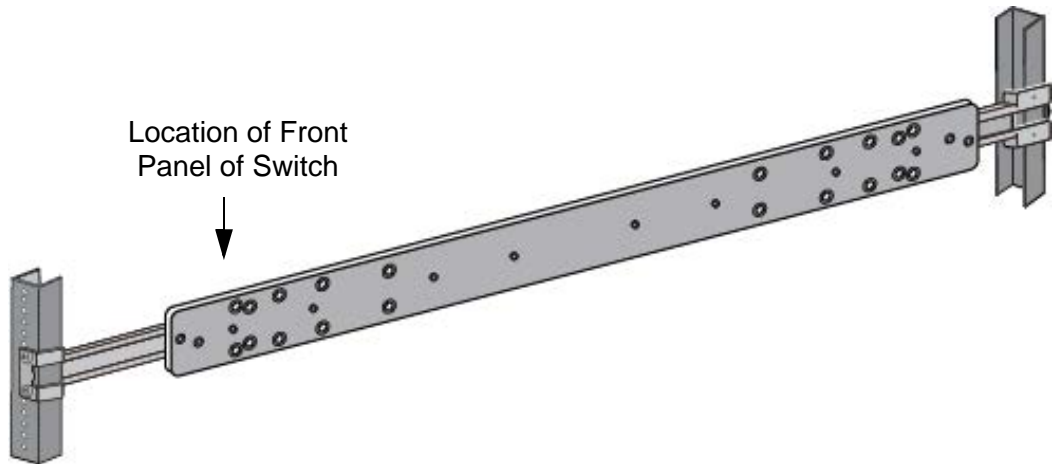

Figure 48. Example of Positioning the Inner Rail
2. Position the inner rail at the planned location for the front panel of switch in the sliding rack. Refer to Figure 48.